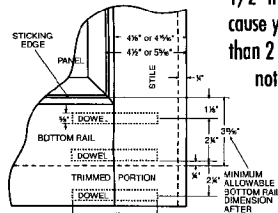

Fig. 4
4. When trimming wood stile and rail door height, remove no more than 1/2" from the top (3/4" is allowed, but may cause your lock to be too high) and no more than 2 1/4" from the bottom of door. Do not cut through a dowel. Always cut between the dowels leaving 3/16" of wood between the cut and the dowel. It is important that at least two dowels remain (one on each side) in both the top and bottom rails after trimming (Fig. 4).